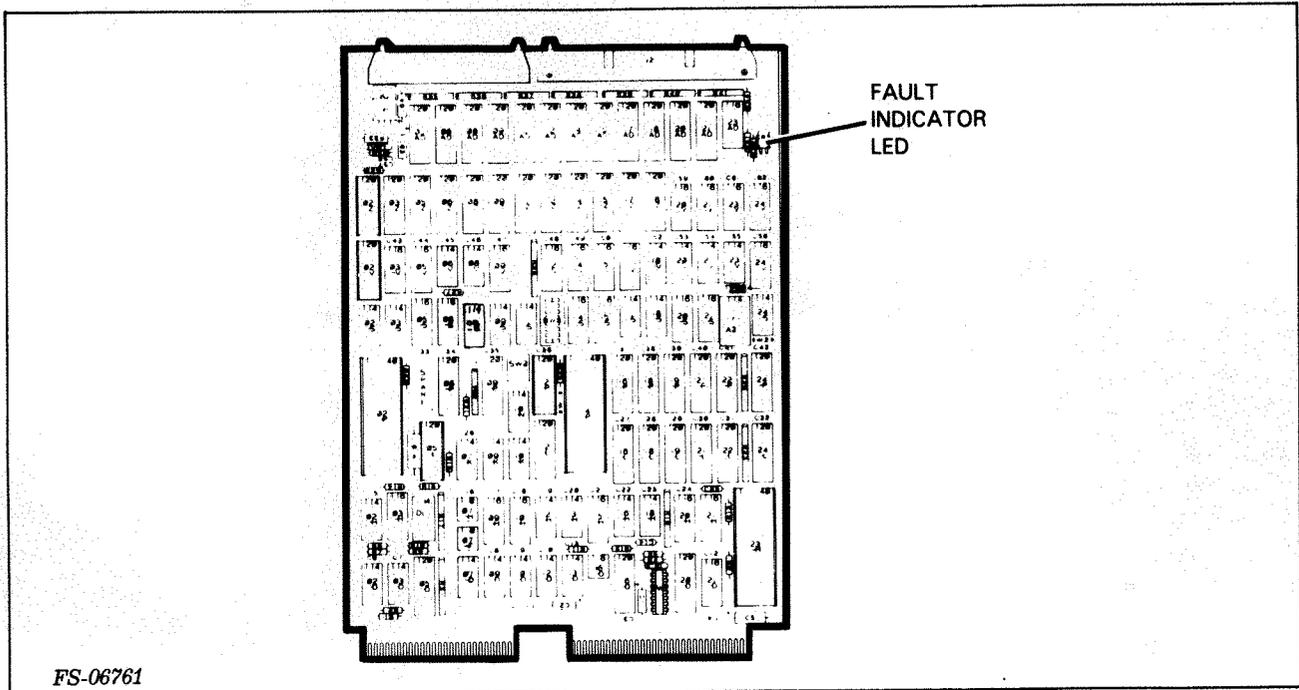

Figure 4-23. Model 6280 Fault Indicator LED
4.6.2 Preparation for Running the Diagnostics - Use these programs to verify subsystem performance after installation or to isolate problems in the subsystem. For problems causing either the READY light, the DC POWER light, or both to turn off, or the controller self test fault LED (CR2) to turn on (Figure 4-23), refer to the troubleshooting flowcharts in subsection 4.2. Otherwise, load the diagnostic.